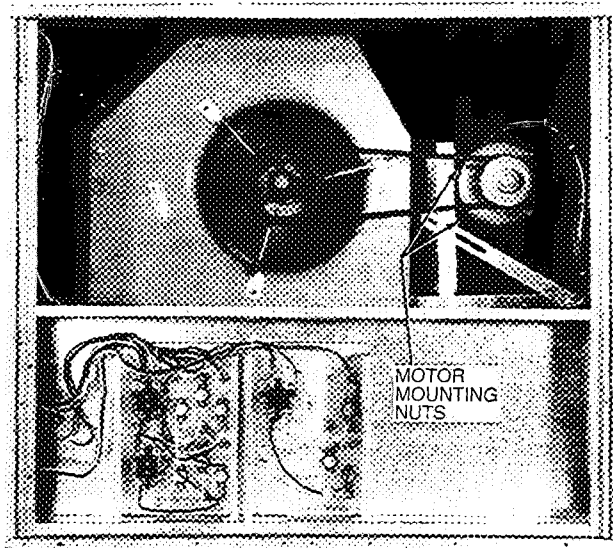

Fig. 10 – Belt-Drive Motor Mounting
2. Loosen belt by loosening fan motor mounting plate nuts (see Fig. 10).
To adjust belt tension (see Fig. 10):